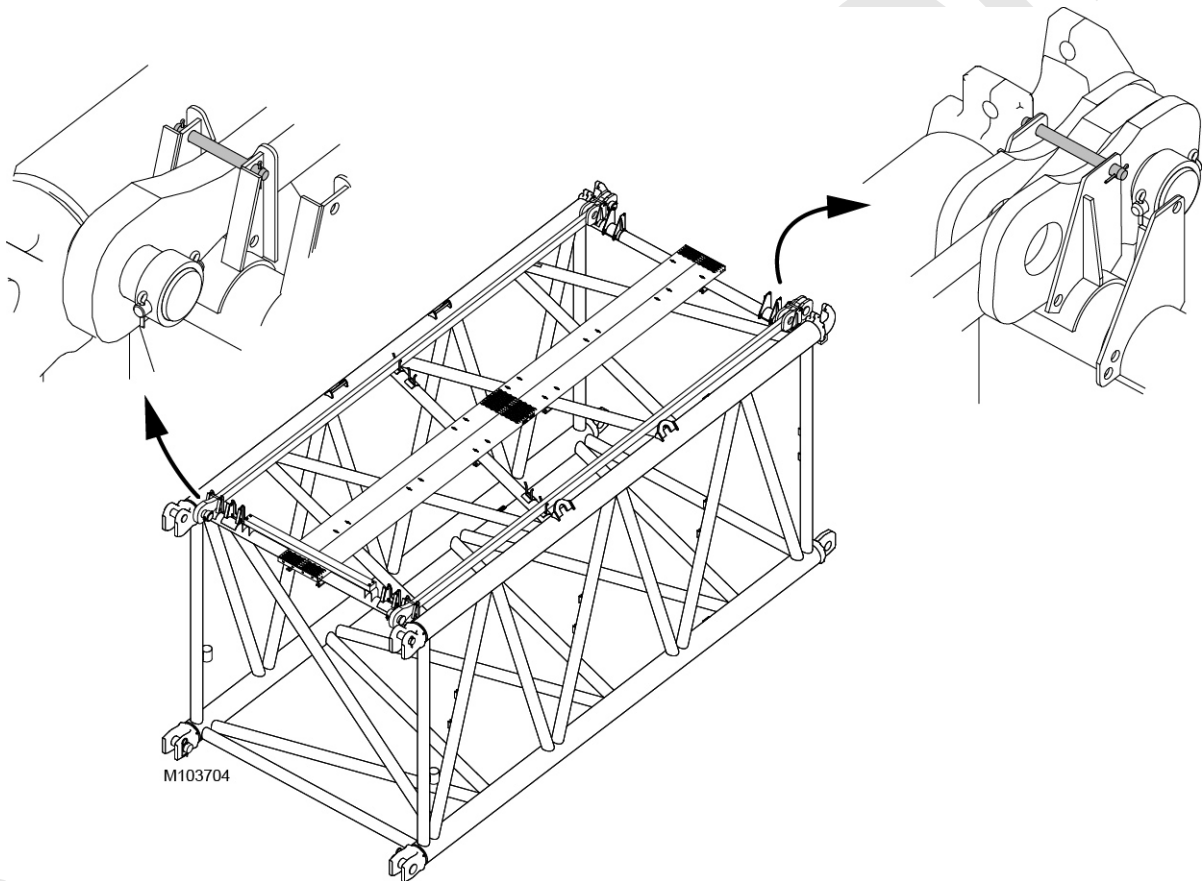

FIGURE 4-2
- Ensure straps for boom inserts and top remain pinned and secured in the shipping position during handling and transportation unloading, Figure 4-2.